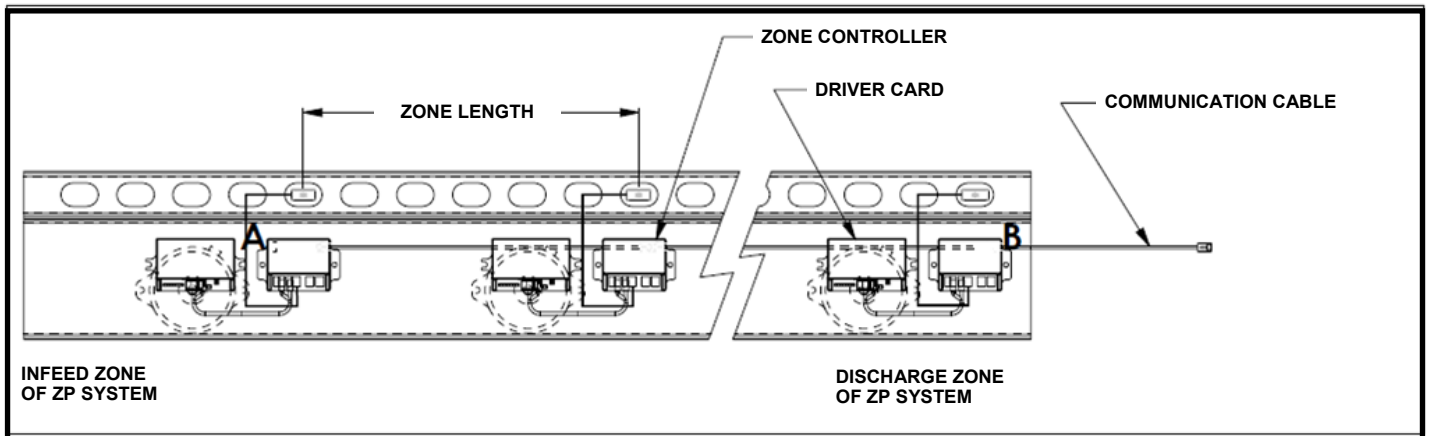

FIGURE 11.1
- 9) Install communication terminating ends at the infeed and discharge of the zero pressure system (See Figure 11.1).
At infeed and discharge end of zero pressure system, terminating ends are required (See Figure 11.1). Two are supplied for every system. Note that a system may be one section or multiple sections including zero pressure curves.